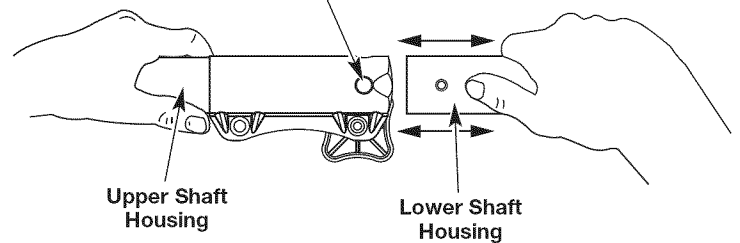

Fig. 5
2. While firmly holding the attachment, push it straight into the Convertible™ coupler until the release button snaps firmly into the primary hole (Fig. 5).
CAUTION: Before operating this unit, be sure that the release button is fully snapped into the primary hole (Fig. 5), and that the knob (Fig. 3) is securely tightened.
3. While firmly holding the upper shaft housing, pull the attachment straight out of the Convertible™ coupler (Fig. 5).